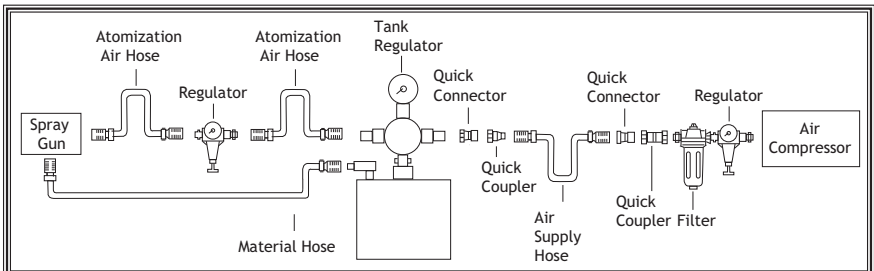

Figure 3. Paint tank connected to air compressor and spray gun.
6. Install a pressure regulator between the tank regulator T-handle (Figure 3) and the spray gun, since some of the pressurized air from the compressor will bypass the tank regulator.
Figure 3 depicts the paint tank connected to a compressed air system with a filter/regulator unit and a spray gun.